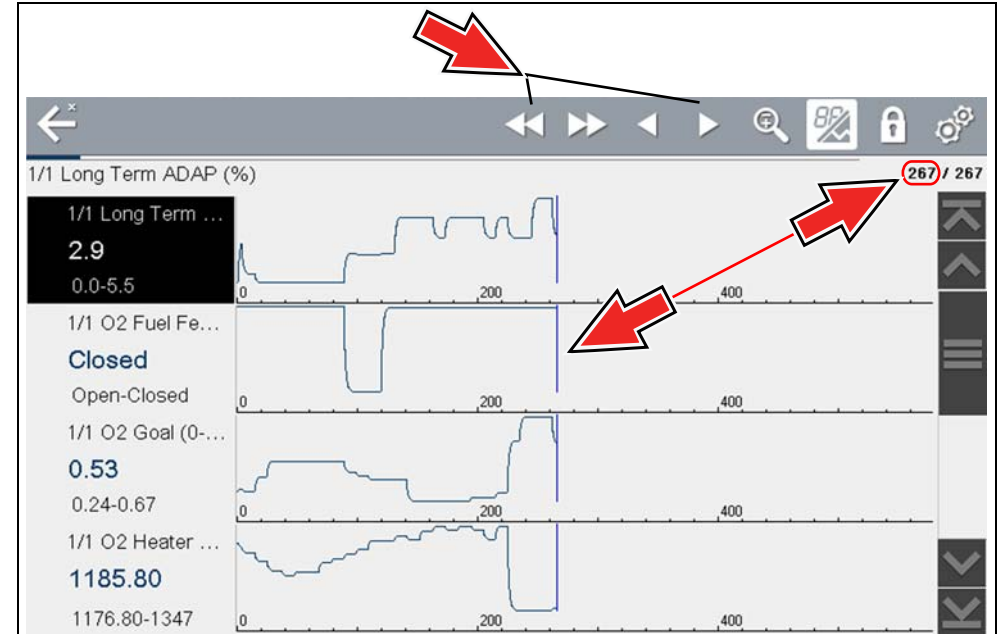

Figure 6-33
3. In graph view, use the control icons to move through the data (Figure 6-33).
The blue (vertical cursor) (Figure 6-33) indicates your position in the data and is denoted by the current position value (Figure 6-33) in the counter display. The cursor displays in all PIDs.
Pressing the Save icon more than once in the same data collection session will create multiple (.SCM) files. Each file will contain gray (vertical cursors) (Figure 6-33) indicating where the data was paused.